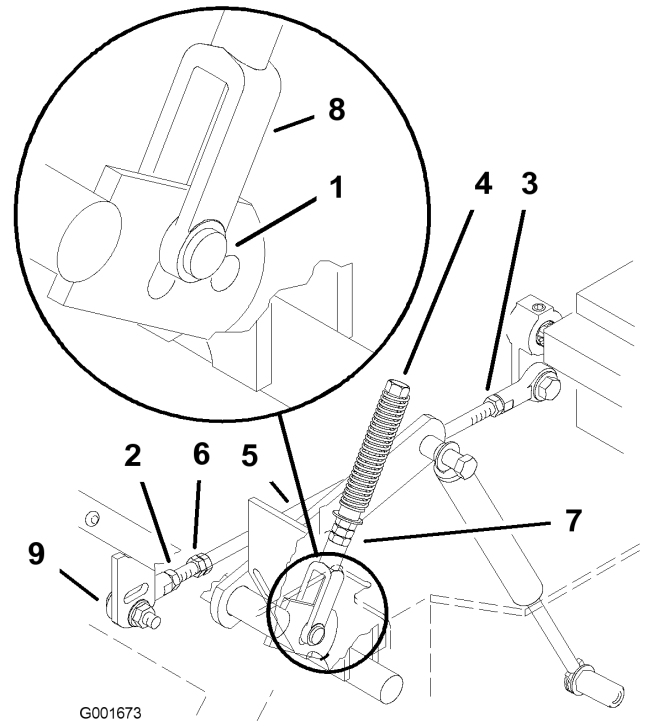

Figure 54
6. Pull the lever back until the clevis pin (on the arm below the pivot shaft) contacts the end of the slot (just beginning to put pressure on the spring) (Figure 54).
8. If adjustment is needed, loosen the nut and jam nut against the yoke (Figure 54).
10. Tighten the nut and jam nut (Figure 54).